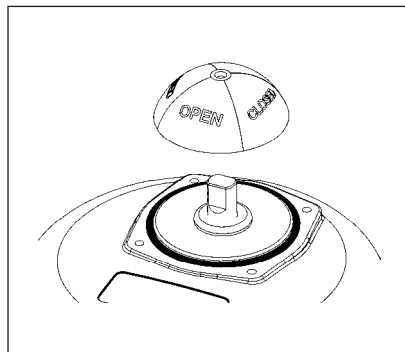

Figure 9: Removing position indicator
- Remove position indicator (see “Figure 9”).